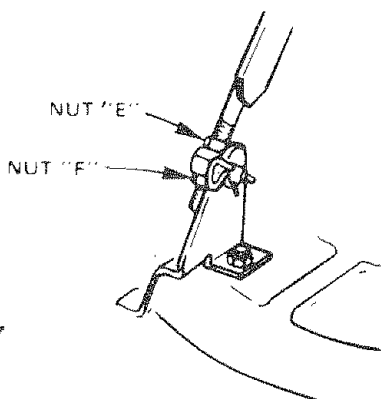

FIGURE 37
- d. To lower rear of mower, loosen nut "F" on both rear suspension arms an EQUAL NUMBER OF TURNS (Fig. 37).